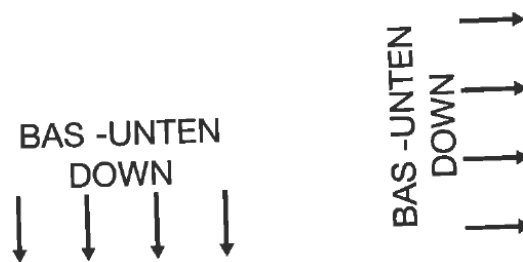

Figure 5 Label indicating orientation of glazing; this corner down.
- Glaze the Pyroguard glass with the stamp installed at the bottom edge (see example sticker in Figure 5).